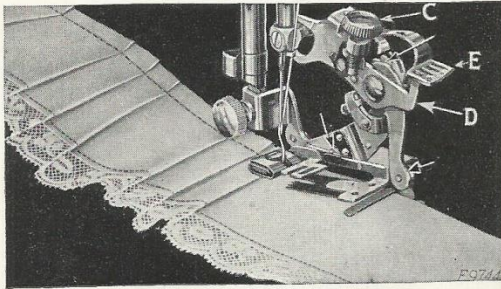

FIG. 61
The ruffler can be adjusted for group plaiting by lifting the adjusting lever (E, Fig. 61) and moving
it to the right so that the top of the projection (D, Fig. 61) enters the small slot indicated by the star on the adjusting lever. This should be done at the points where you wish to make the space between the plaits. The ruffler will then stop and plain stitching will be made. When the desired space has been made, adjust the lever (E) so that the projection (D) enters either the slot marked "6" or the slot marked "12." By alternately making groups of plaits and plain spaces, as shown in Fig. 61, very attractive work can be produced.
Occasionally apply a drop of oil to the working parts of the ruffler at each of the places indicated by the unlettered arrows in Fig. 61. After oiling, operate the ruffler on a waste piece of material to prevent the oil soiling the work. If the ruffler does not plait evenly, a drop of oil may remedy the trouble.